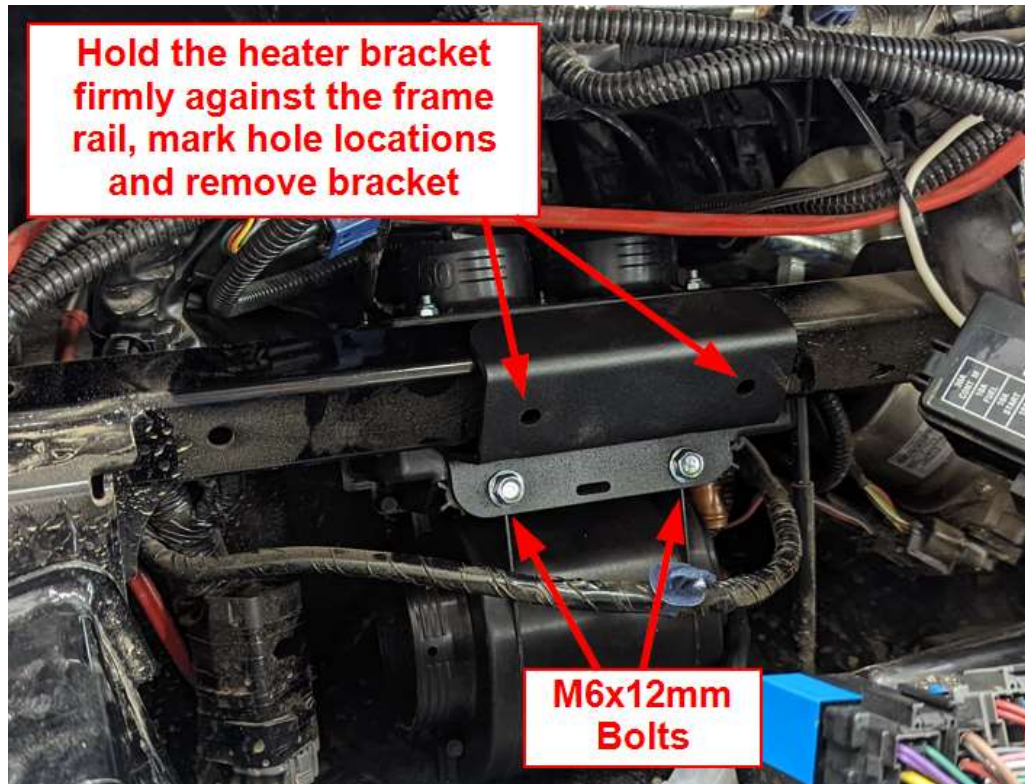

Figure 22
- a. Using the M6 x 12mm Serrated Flange Bolts, temporarily mount the Main Heater Bracket to the Heater as shown in Figure 22. Allow the position of the heater along the square frame rail to be dictated by the 5/8" Heater Hoses.